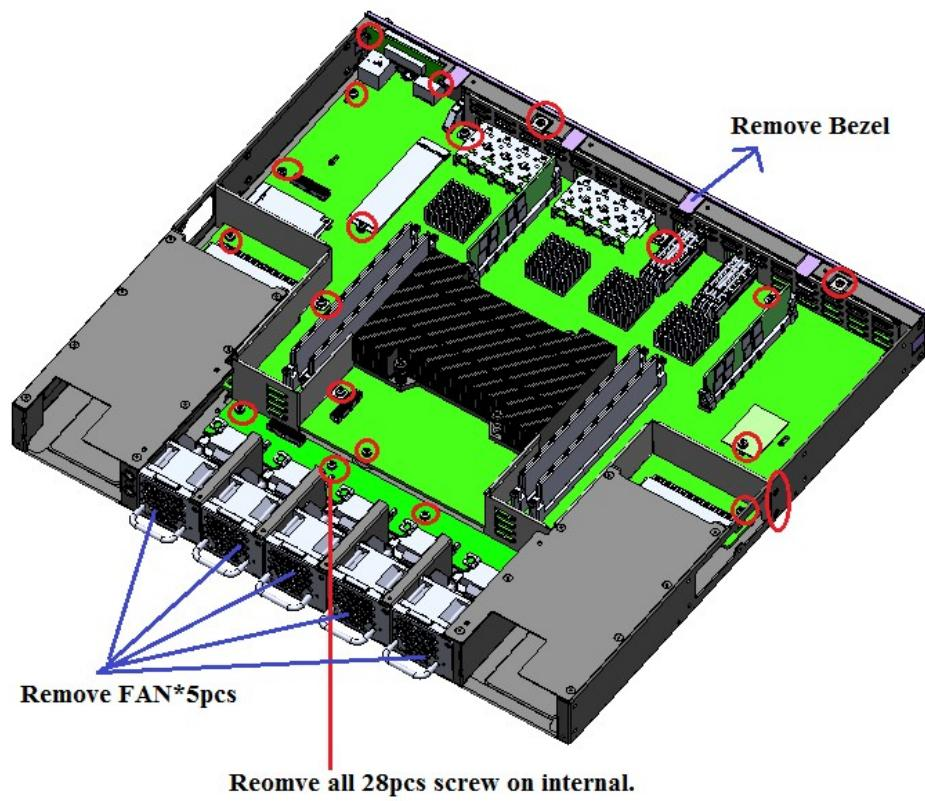

Figure 4 : Remove the FIPS bracket and baffle right /baffle left.
5. Remove the FIPS bracket and baffle right/ baffle left (see Figure 4).
6. Remove cable *2. (see Figure 4).